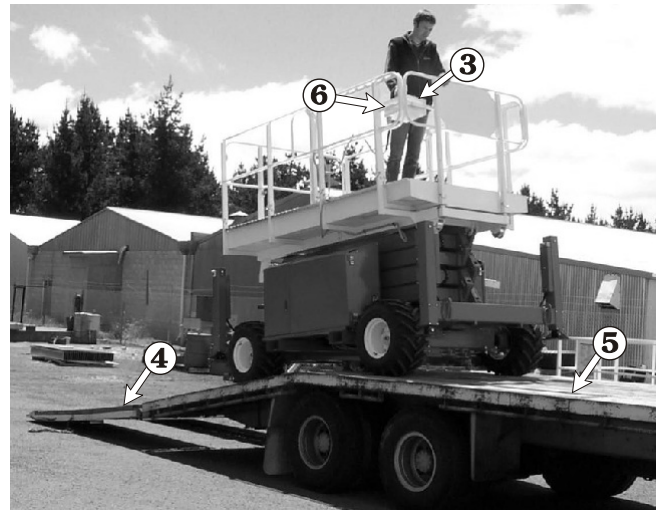

Figure 10.4
6. Use the joystick controller ③ to slowly drive the RT straight onto the ramp ④ and trailer ⑤ (see Figure 10.4).
7. When the RT is in place on the trailer, push the **Emergency Stop** switch ⑥ (see Figure 10.4) in (OFF) at the platform control box.